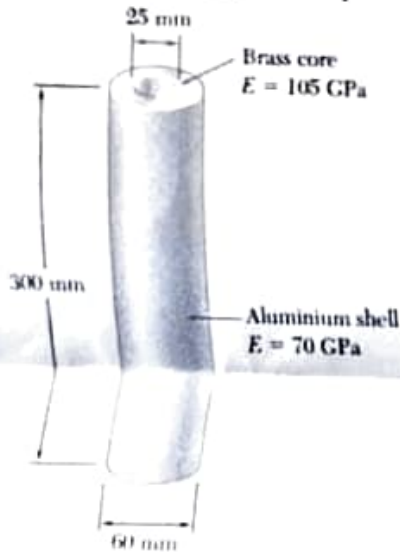

Figure 1
1. An axial tensile force of 200 kN is applied to the assembly shown in Figure 1, by means of rigid end plates. Determine the normal stress in the aluminum shell and the corresponding deformation of the assembly. [12]